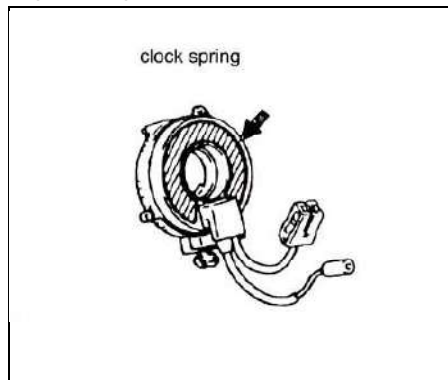

Fig 19-17
(3) Clock spring(See fig 19-17)